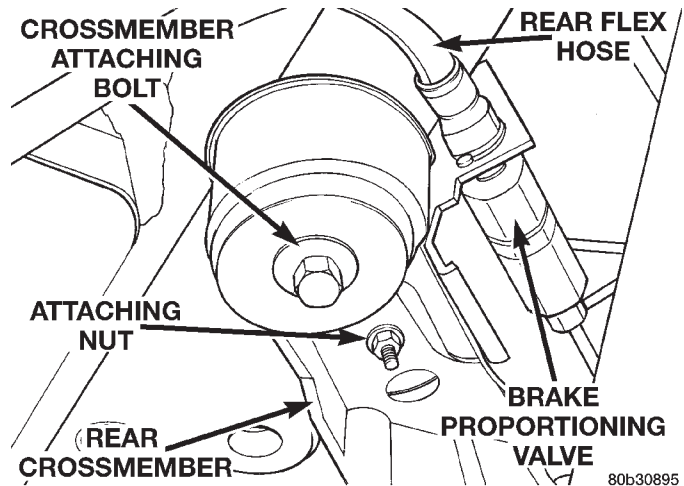

**Fig. 32 Rear Brake Proportioning Valve**
(11) Remove parking brake cables from crossmember.
(12) Remove nuts attaching both brake proportioning valves to the rear corners of the crossmember (Fig. 32).
(13) Position a transmission jack under the muffler.
(14) Disconnect the hanger securing the exhaust resonator to the rear frame rail.
(15) Disconnect the hangers securing the exhaust muffler to the rear suspension crossmember. There is one hanger on each side of the muffler.
(16) Lower the transmission jack and muffler enough to allow for better access to the rear crossmember.
(17) Remove the screw securing the fuel filler neck to the left frame rail.
(18) Remove the final 2 bolts attaching the rear suspension crossmember to the frame rails. These are located at the rear corners of the crossmember (Fig. 32).
(1) Install the rear suspension crossmember back into vehicle above muffler. Make sure that the brake tubes are properly routed above the crossmember as it is installed.
(2) Install the rear proportioning valve mounting brackets into mounting position at the rear corners of the crossmember (Fig. 32). Install the attaching nuts.